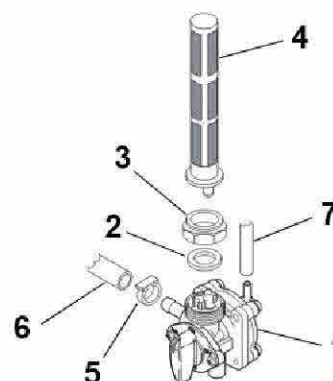

Figure 1. Fuel Supply Valve
3. See Figure 1. Remove the fuel hose (6) from the fuel outlet nipple on the valve. Discard the hose clamp (5).
4. Remove the vacuum hose (7) from the nipple on the valve.